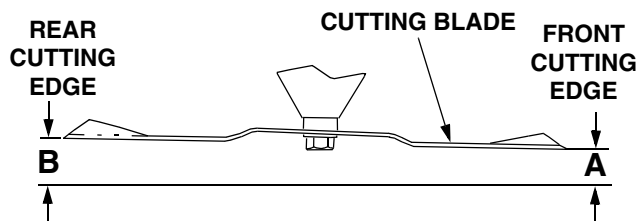

Figure 32
3. Refer to Figure 32. Measure and record the distance from the front cutting edge to the ground (measurement A), and from the rear cutting edge to the ground (measurement B), for each of the blades. The front edge of each blade (measurement A) should be lower than its back edge (measurement B) by 1/8 to 1/4 inch.